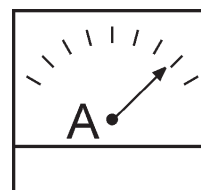

Figure 54. Ammeter (Load)
19. Observe the generator's ammeter (Figure 54) and verify it reads the anticipated amount of current with respect to the load. The ammeter will only display a current reading if a load is in use.